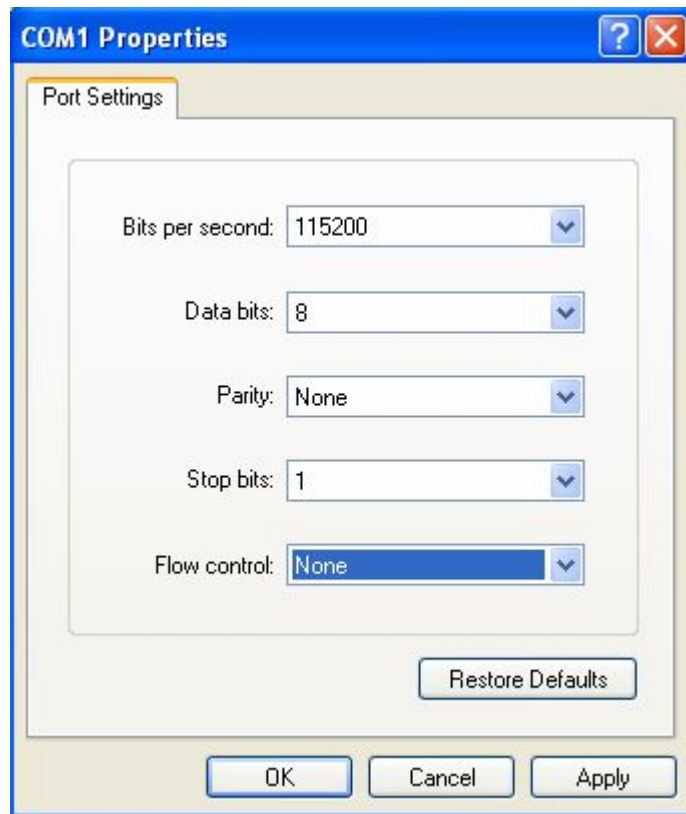

Fig 5
2) Put in the name “hikvision”. And do step 1 again. Then enter into fig 4 and select COM1 and click “OK” to enter into fig 5.